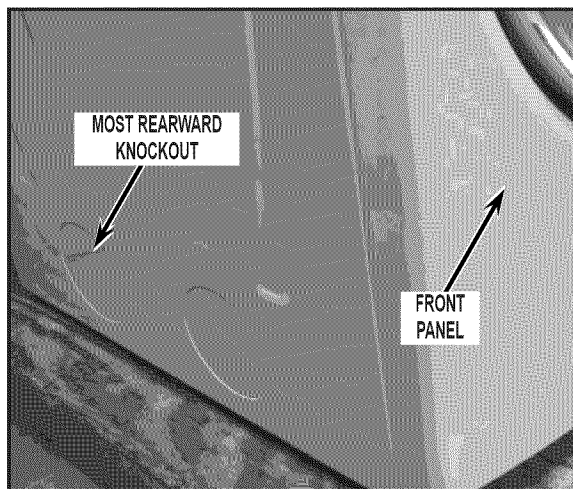

FIGURE 16
1. As you are facing the dryer, review the lower section of the left side panel. If two (2) knockout features are present remove the MOST REARWARD KNOCKOUT ONLY. See *Figure 16*.